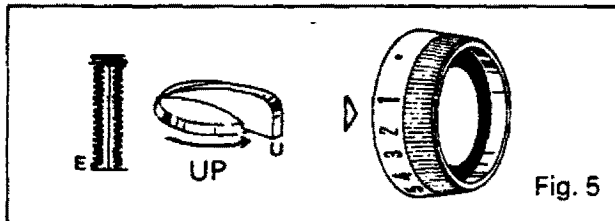

Fig. 5
5. Raise presser foot and reset stitch width control to original setting of  $1\frac{1}{2}$ . Raise feed dogs and lower presser foot. Sew other side of buttonhole until desired length is obtained. Stop with needle in fabric on left side of stitching. Point E. See Fig. 5.
6. Raise presser foot. Set stitch width control to 5. Drop feed dogs. Lower presser foot and bartack about three (3) stitches. Remove fabric from machine.